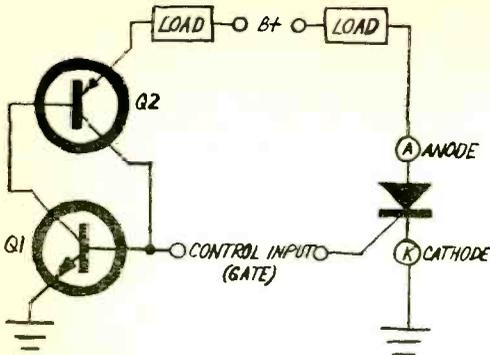

Fig. 1. The transistor circuit at left is equivalent to actual SCR at right.
**How It Works.** The operation of the SCR is perhaps best understood by examining the device's pnpn junction, shown in equivalent form by the two transistors in Fig. 1. Assume that the control (gate) electrode is connected so that its voltage is the same as, or slightly negative with respect to, the voltage on the cathode. Transistor Q2 is cut off and only leakage current flows in the circuit. If the gate voltage is made positive with respect to ground, the base-emitter junction of Q2 becomes forward biased and Q2 begins to conduct. Moreover, Q1 also becomes forward biased and conducts. As Q1 starts conducting, its collector current aids in turning on Q2, just as collector current from Q2 assists in turning on Q1.
Leakage currents increase with temperature increases and roughly double for every 10° C rise. In Fig. 1, the transistors cannot distinguish between currents caused by leakage or from a triggering pulse. Hence,